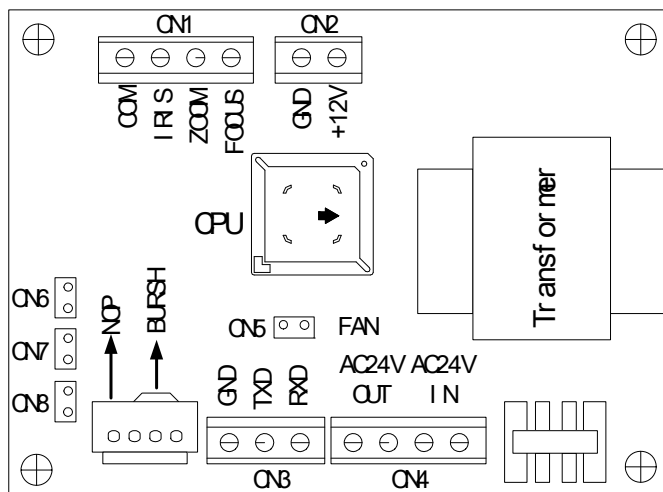

Figure 1
- 3 . According Figure 1 to connect camera's control wire and power supply. Note : please